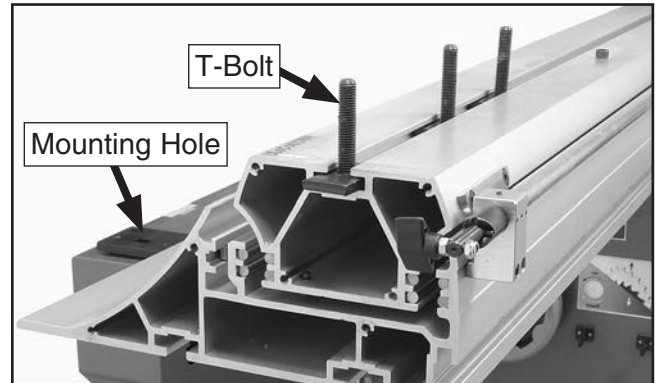

Figure 23. T-bolts inserted into table track.
3. Insert the three T-bolts into the track along the bottom of the sliding table base (**Figure 23**), and space them apart the same distance as the mounting holes in the cabinet.